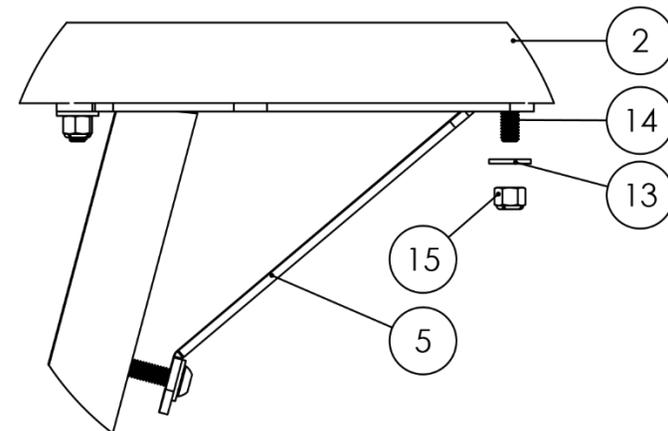

Figure 14
9. **Install the Crossbars onto the Legs.** To install the previously formed Crossbar (Item No. 2) and Side Rail (Item No. 3) assembly, hold it above the Legs (Item No. 4) so that the ends of the Carriage Bolts (Item No. 14) hang down and align with the holes on the Crossbar Gusset Assembly (Item No. 5). Using a Metal Washer (Item No. 13) and a Nylon Lock Nut (Item No. 15) secure each Leg and Crossbar. Figure 14 shows the bolt assembly as it is required.